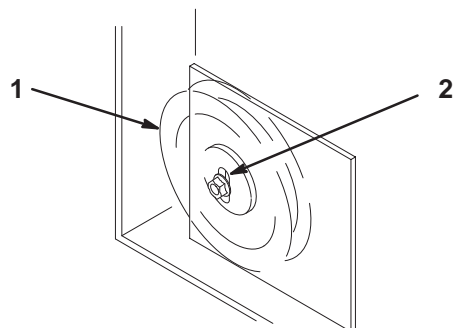

Figure 72
11. If the mower idler plate contacts the end of the adjustment slot and more belt tension is required, a small change to the right side fixed idler can create more belt tension adjustment (Fig. 72).